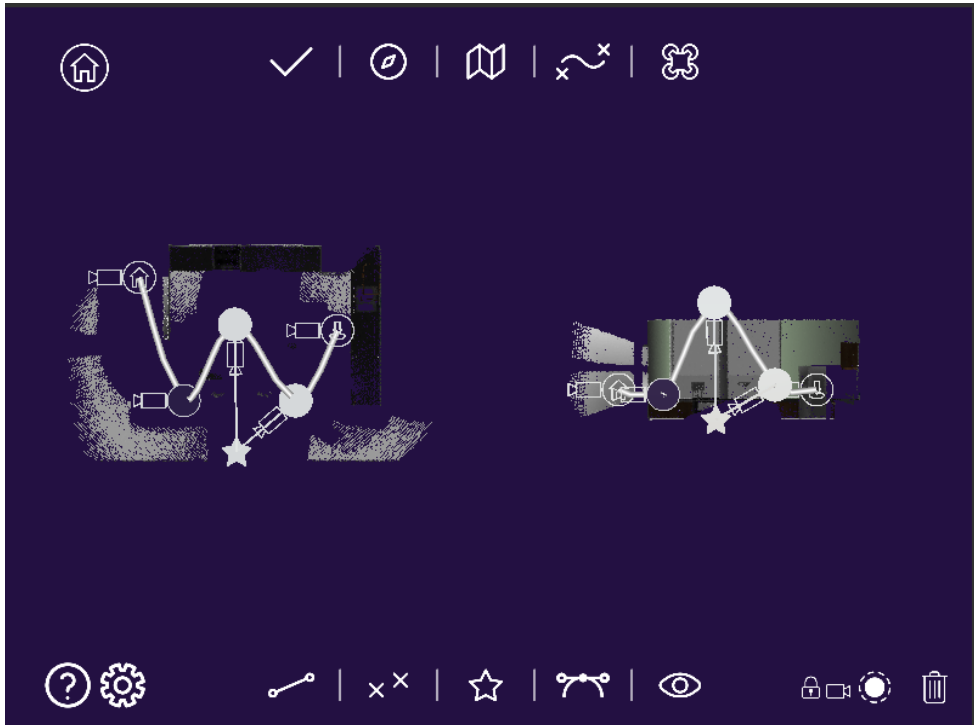

Figure 34. Selecting a point of interest for editing (where the camera is focused) from a path segment between two consecutive key points
- **PoI:** Any tap on the screen sets a PoI at that position. All the KPs selected will have the gimbal focusing on the position of the PoI (see Figure 34).